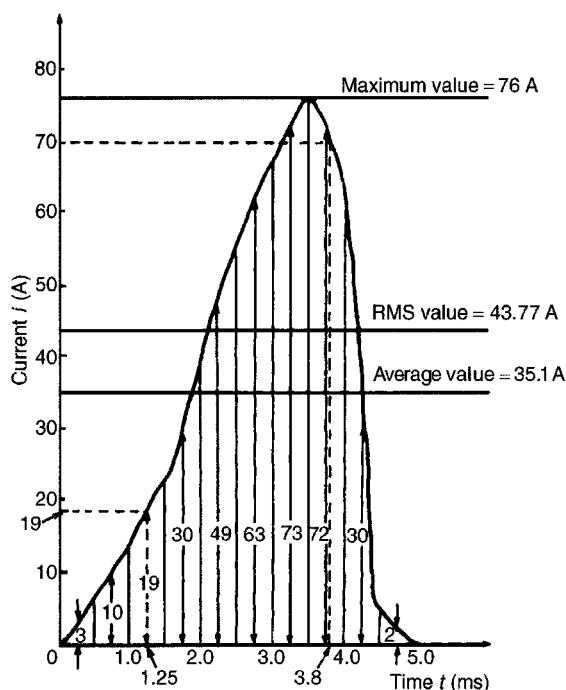

Figure 14.6
The half cycle of alternating current is shown plotted in Fig. 14.6
- (b) Instantaneous value of current after 1.25 ms is **19 A**, from Fig. 14.6. Instantaneous value of current after 3.8 ms is **70 A**, from Fig. 14.6
$$\begin{aligned} \left. \begin{array}{l} \text{area under} \\ \text{curve} \end{array} \right\} &= (0.5 \times 10^{-3})[3 + 10 + 19 + 30 \\ &\quad + 49 + 63 + 73 + 72 + 30 + 2] \\ &\quad (\text{see Fig. 14.6}) \\ &= (0.5 \times 10^{-3})(351) \end{aligned}$$